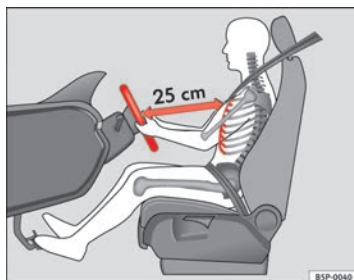

Fig. 136 Proper sitting position for driver
- Adjust the steering wheel in this way until the correct position is set \Rightarrow fig. 136.
- Adjust the driver seat or steering wheel so that there is a distance of at least 25 cm between the steering wheel and your chest => page 164, fig. 136. If you fail to observe the minimum distance, the airbag will not protect you. Risk of fatal injury.